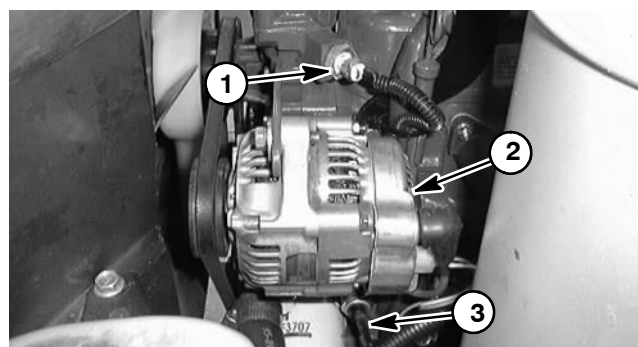

Figure 24
- D. High temperature shutdown switch, alternator, and low oil pressure switch (Fig. 24).